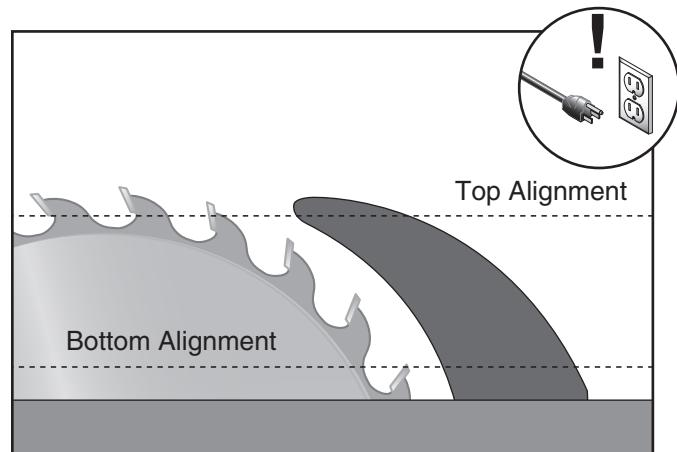
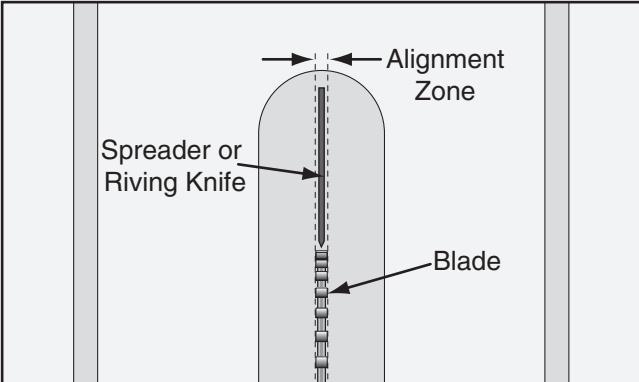

Figure 121. Checking top and bottom riving knife parallelism with blade.
Figure 122. Spreader/riving knife alignment zone.
3. Place straightedge against side of blade and spreader/riving knife at top and bottom, as shown in **Figure 121**. Spreader/riving knife should be parallel with blade along its length at both positions, and in "Alignment Zone," as shown in **Figure 122**.